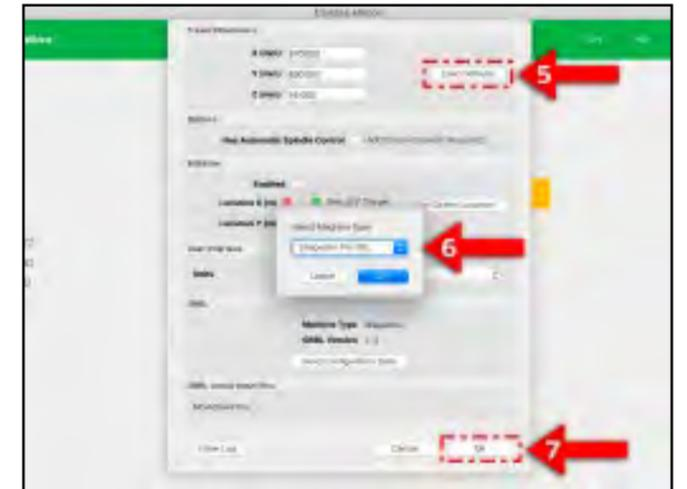

Figure 10-3
5. After the configuration settings finish sending, click the **Load Defaults** button in the *Travel Dimensions* section at the top of the window. See Fig. 10-3.